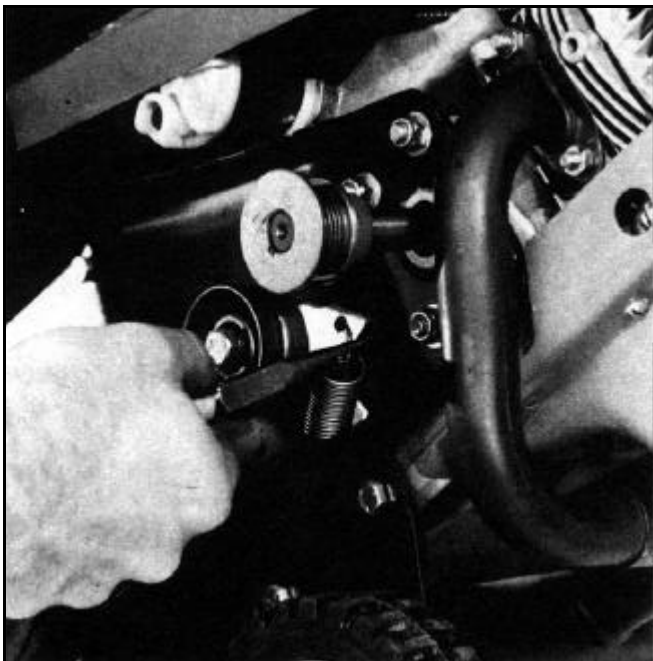

Figure 65
2. Using a needle nose pliers, remove the idler spring from the idler arm then from the left side plate (Figure 65). Pay close attention to the shape of the ends of the idler spring. The ends have different shapes; the more closed end of the spring rides in a small hole in the idler arm, while the more open end is fastened to a small hole in the left side plate.